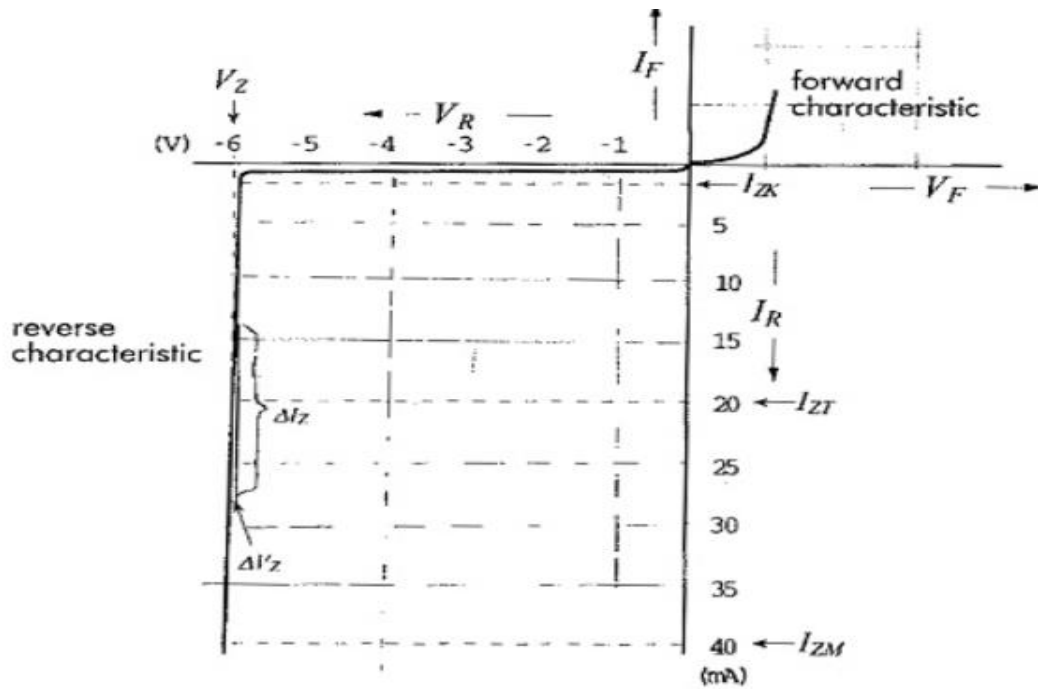

Fig.1.29. Zener circuit symbol and low current zener diode package
- The typical Zener Diodes Characteristics are shown in detail in Fig. 1.29. Note that the forward characteristic is simply that of an ordinary forward-biased diode. Some important points on the reverse characteristic are:
- The dynamic impedance (Z_Z) is another important parameter that may be derived from the characteristics. As illustrated in Fig. 1.29,